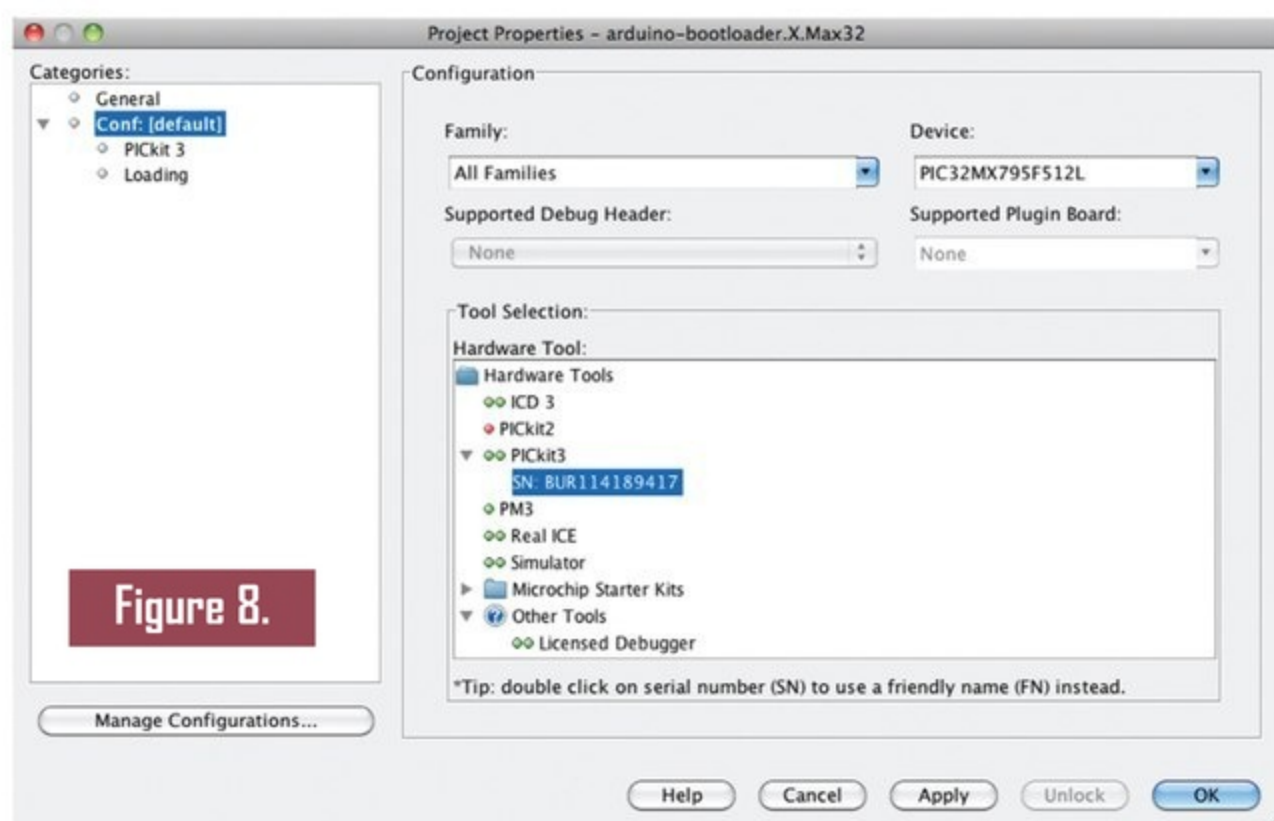

Figure 8.
2. Right-click on your project name in the left column, then click on "Properties." You will see what's in **Figure 8**. Make sure that the SN: ... entry is selected. MPLAB X can run multiple sessions with multiple programmers/debuggers at the same time, so you have to explicitly select the one that a particular project is using.